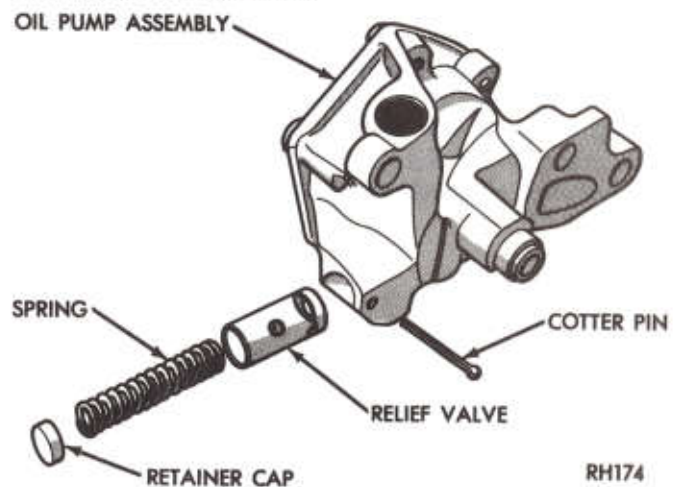

Fig. 55—Oil Pressure Relief Valve
- (1) To remove the relief valve, proceed as follows:
- (b) Clamp screw into a vise and while supporting oil pump, remove cap by tapping pump body using a soft hammer. Discard retainer cap and remove spring and relief valve (Fig. 55).